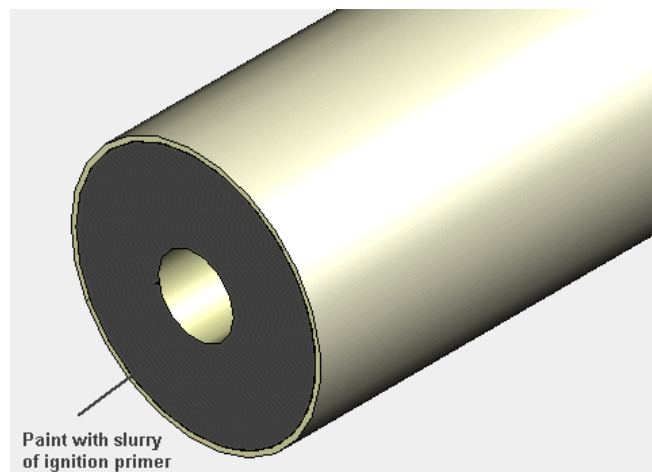

Figure 2 – Priming of propellant segments
1. Prepare Ignition Primer slurry (P20) and paint onto both ends of all 12 propellant grain segments (P6A, P6B), as shown in Figure 2, using small paint brush (T4).